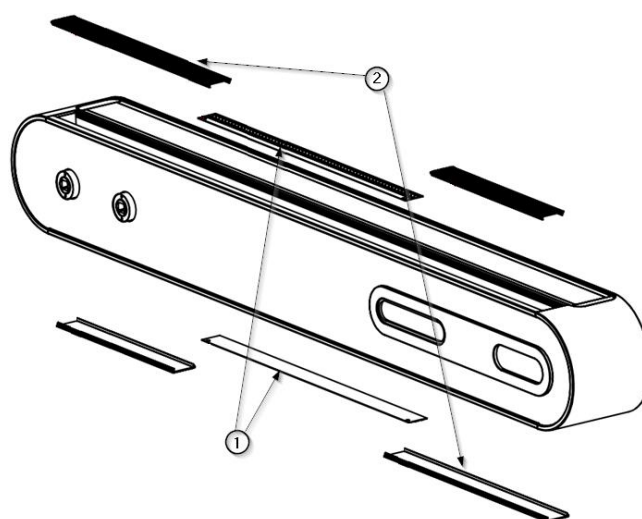

Fig. 2 Removal of diffusers and top and bottom covers
- Using a flat-nosed tool, remove the light diffusers ① as shown in figure 2, taking care not to scratch the paintwork on the top and bottom covers ②.